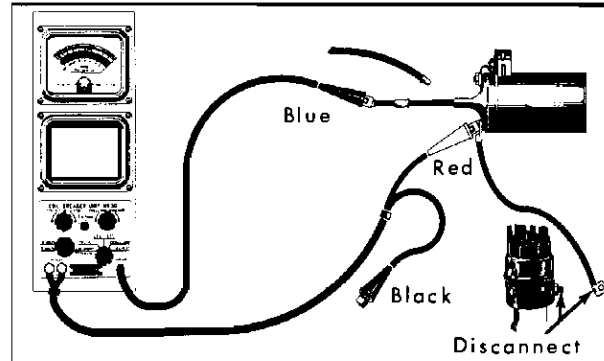

Fig. 11-24 Coil Secondary Test
4. Connect leads as shown in Fig. 11-24.